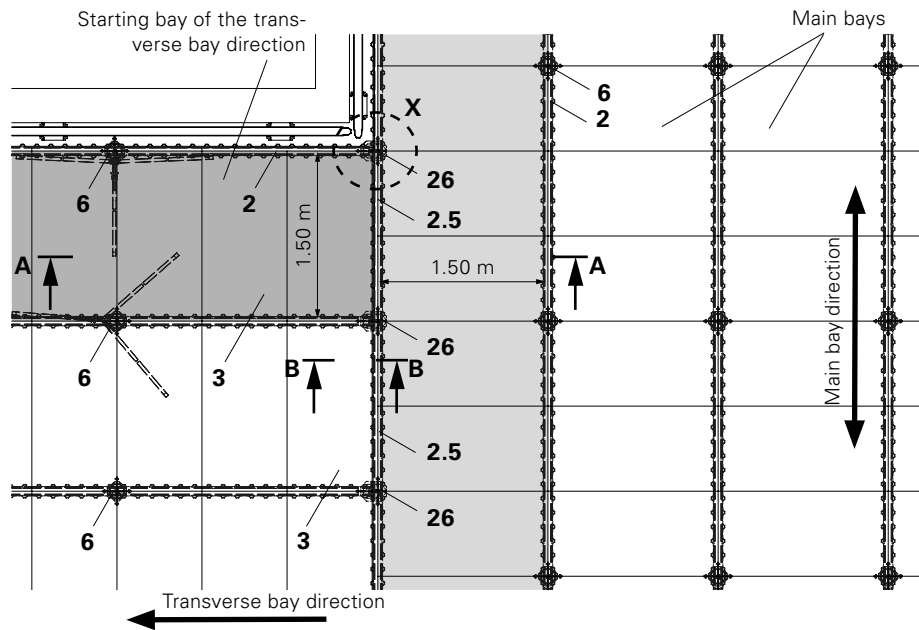

Fig. A10.02
(Fig. A10.02)
1. Install slab prop with Prophead SDKS (26) with a spacing of 1.50 m and secure with tripods.
2. Mount Main Beam SLT 150 (2.5) – instead of SLT 225. (Fig. A10.02 + A10.02a)
3. Continue assembling in the direction of the transverse bay with slab prop, Prophead SSK (6) and Main Beams SLT: see Section A4 Shuttering. (Fig. A10.02 + A10.03) Secure slab props with tripods.
4. Install Panels SDP 150 x 75 (3) in the direction of the transverse bay. (Fig. A10.02)